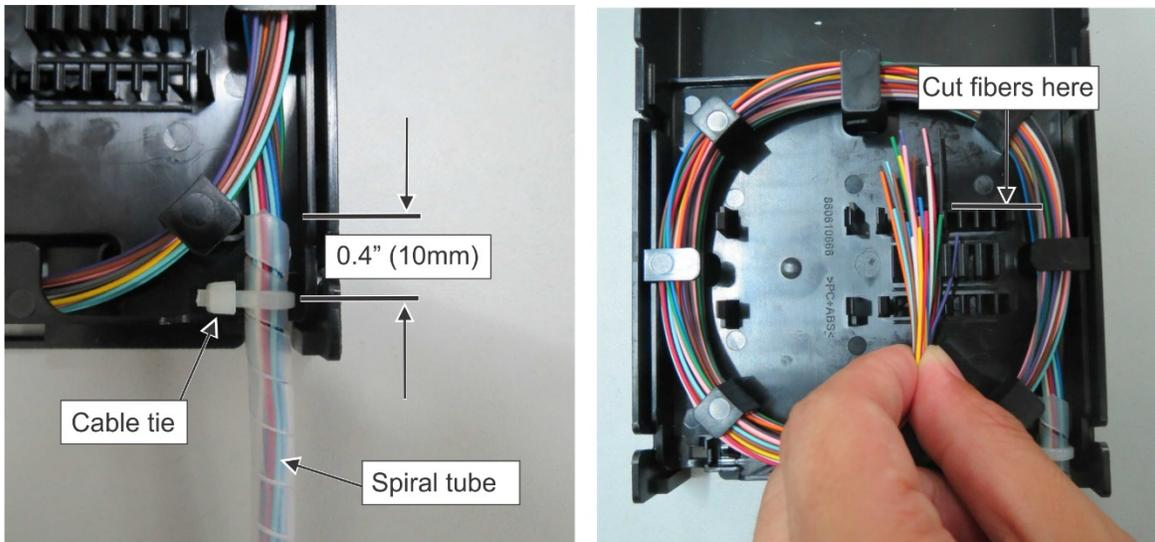

Figure 18. Secure Incoming Cable (Right Side)
3. Position cable so that edge of spiral tube is just inside the right rear of the cassette with fibers in direction of the front. Using the provided cable tie, loop it through the slot in bottom of cassette and around spiral tube approximately 0.4 inches (10mm) from the end of tube. Tighten cable tie snug around tube to secure (Figure 18, left picture). Make sure the head of the cable tie is on left side of cable.
4. Loop fibers counter-clockwise in the cassette to determine required length for splicing, then cut at location marked above for 1st or 2nd loop (Figure 18, right picture).